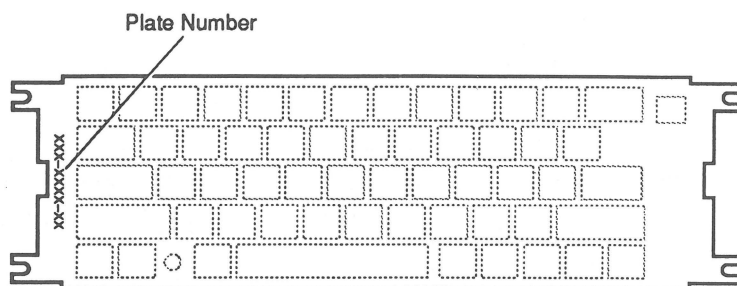

Figure 2 Plate Number
4. You can also identify a standard Apple IIe keyboard (without a numeric keypad) by finding the plate number on the black metal keyboard plate. After you remove the keyboard from the computer, locate this number on the top-left edge of the plate (see Figure 2). (The Mitsumi keyboard has no plate number.) Then find the plate number in the left column of Figure 3, and look in the right column to find the exact keyswitch.